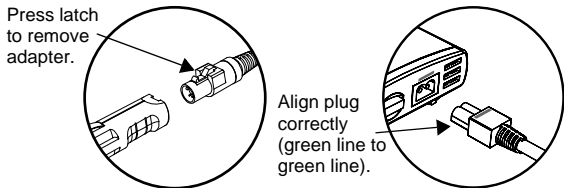

Figure 4 Connecting the Adapter and DC Cable
1. Attach the power outlet adapter to the DC input cable. See Figure 4 on page 15.
2. Plug the DC input cable into the DC input port on the inverter module. Align the plug and port correctly. See Figure 4.
1. Plug the DC input cable into the DC input port on the inverter module. Observe correct polarity. See Figure 4.
2. If necessary, attach the vehicle power outlet adapter to the DC input cable. See Figure 4 on page 15.
3. Plug the DC input cable into the DC input port on the inverter module. Align the plug and port correctly. See Figure 4.